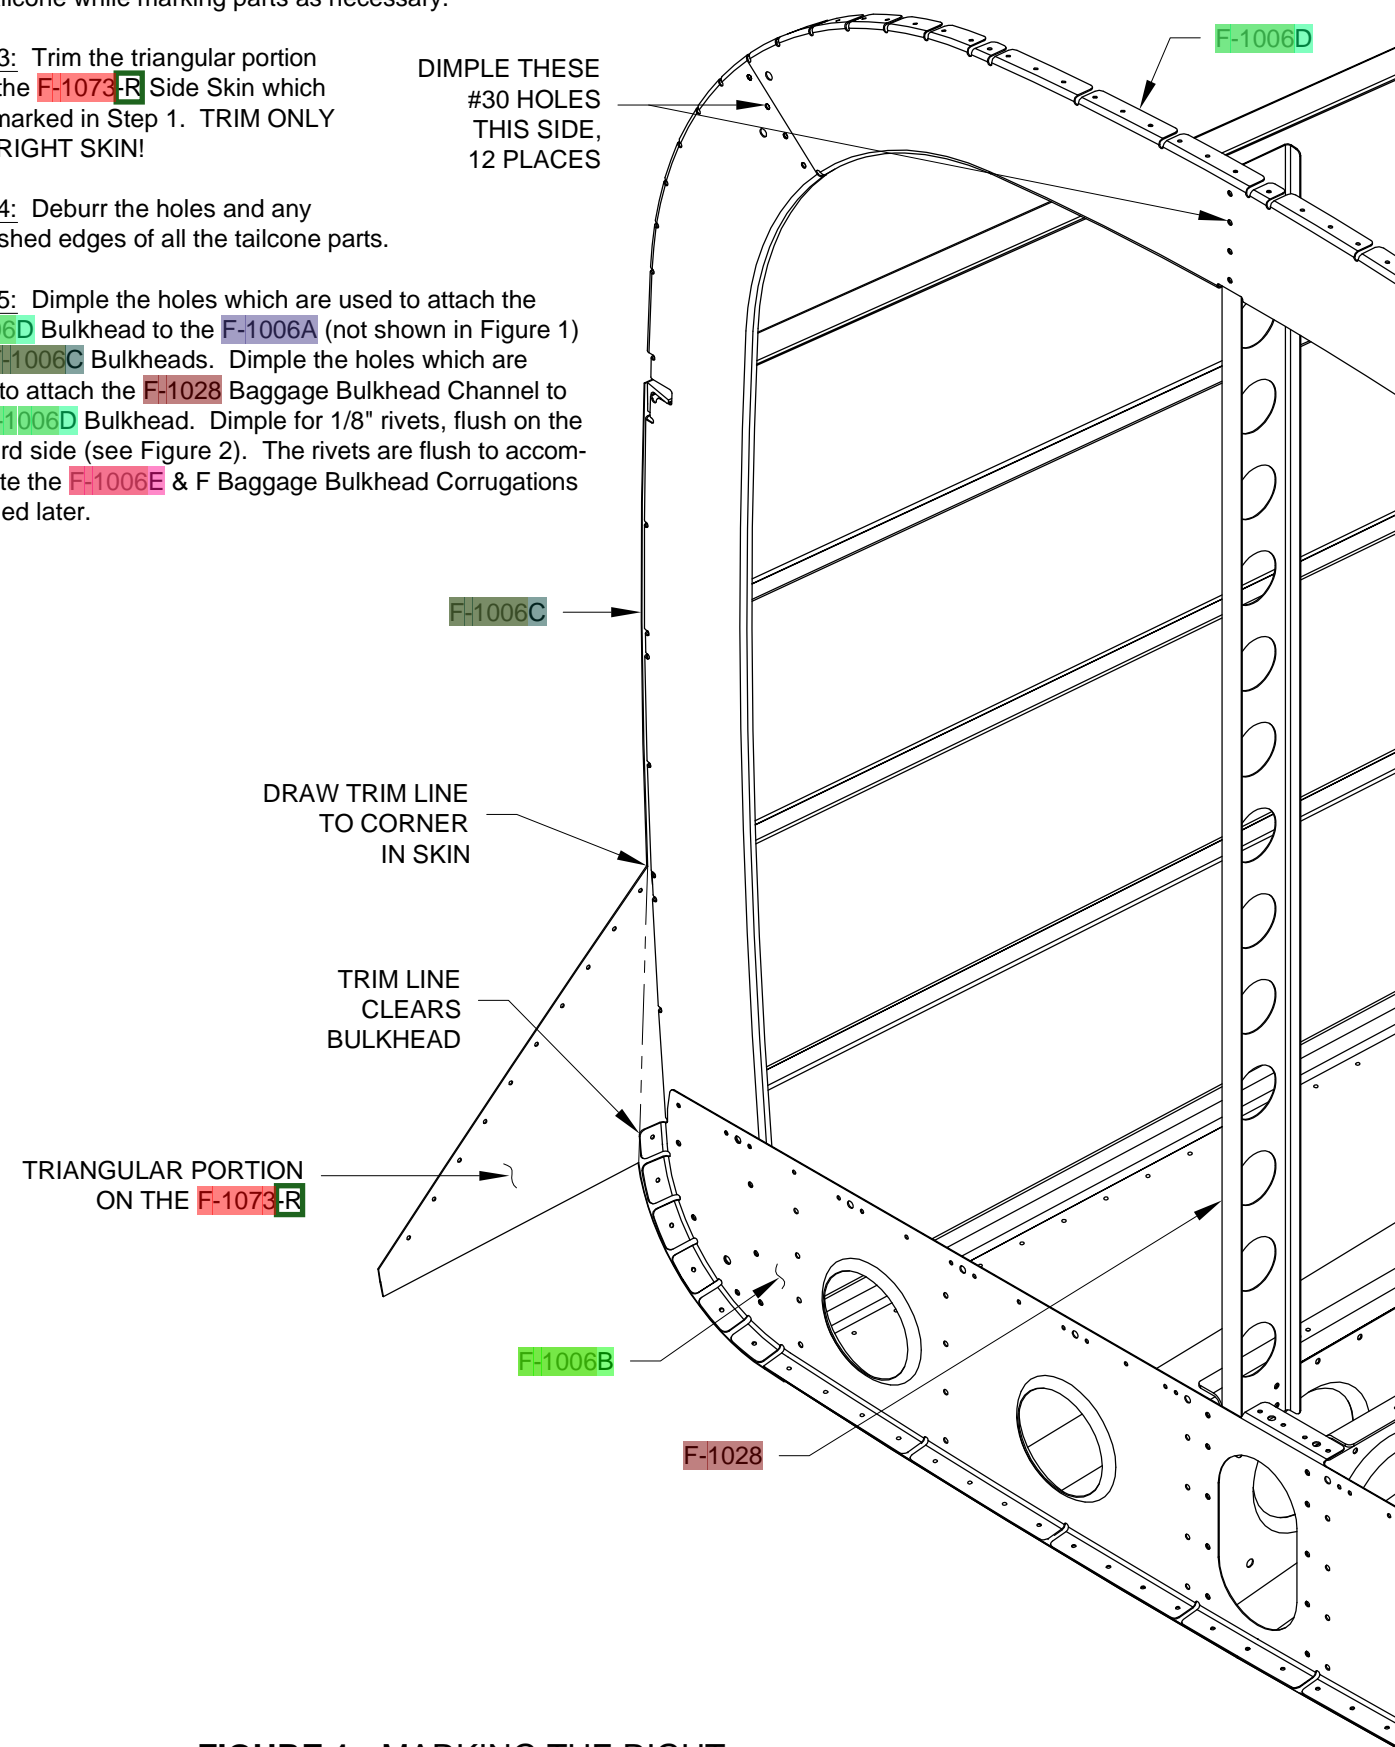

FIGURE 1: MARKING THE RIGHT SIDE SKIN FOR TRIMMING
Step 5: Dimple the holes which are used to attach the F-1006D Bulkhead to the F-1006A (not shown in Figure 1) and F-1006C Bulkheads. Dimple the holes which are used to attach the F-1028 Baggage Bulkhead Channel to the F-1006D Bulkhead. Dimple for 1/8" rivets, flush on the forward side (see Figure 2). The rivets are flush to accommodate the F-1006E & F Baggage Bulkhead Corrugations installed later.